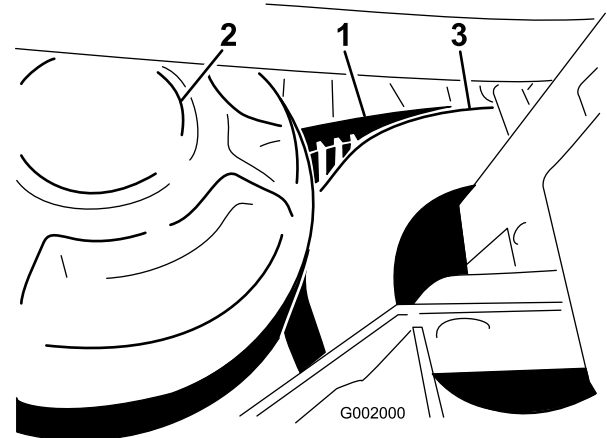

Figure 66
1. Rotate and route the belt over the secondary clutch (Figure 66).